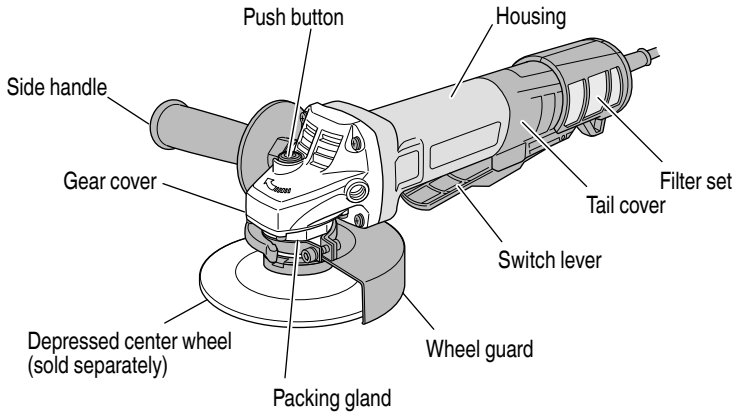

Fig. 1
1. Hold the grinder firmly by its housing and side handle (Fig. 1).